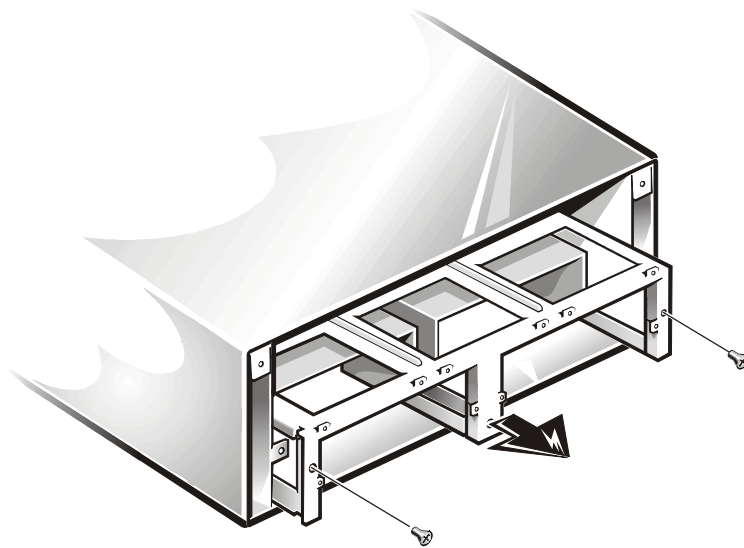

Figure 8. Removing the Component Mounting Bracket
1. Using a Phillips-head screwdriver, remove the two screws that secure the component mounting bracket to the chassis (see Figure 8).